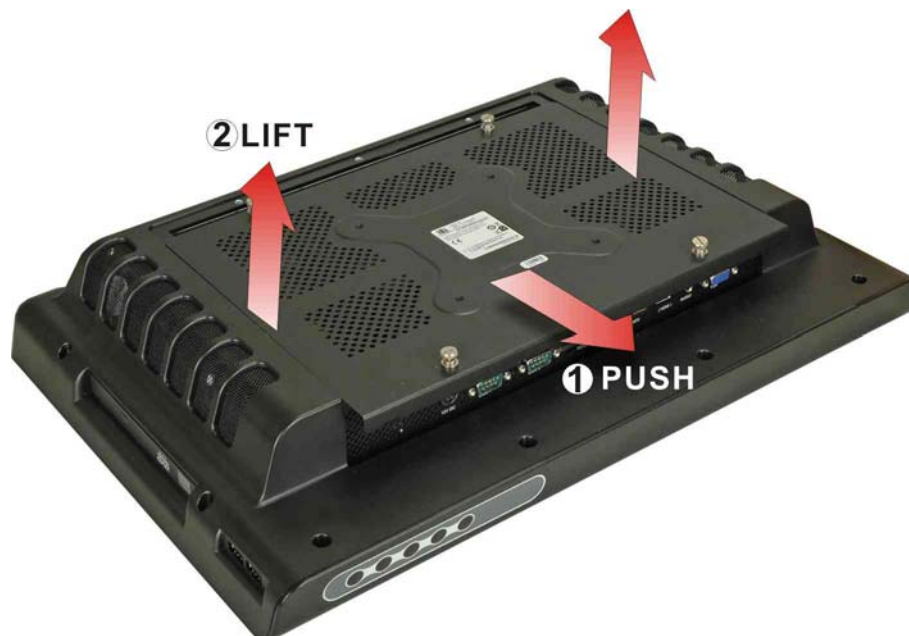

Figure 2-1: Aluminum Back Cover Retention Screws
Step 2: Unfasten the four silver retention screws. The screws will not separate from the cover - just loosen as much as possible (Figure 2-1).